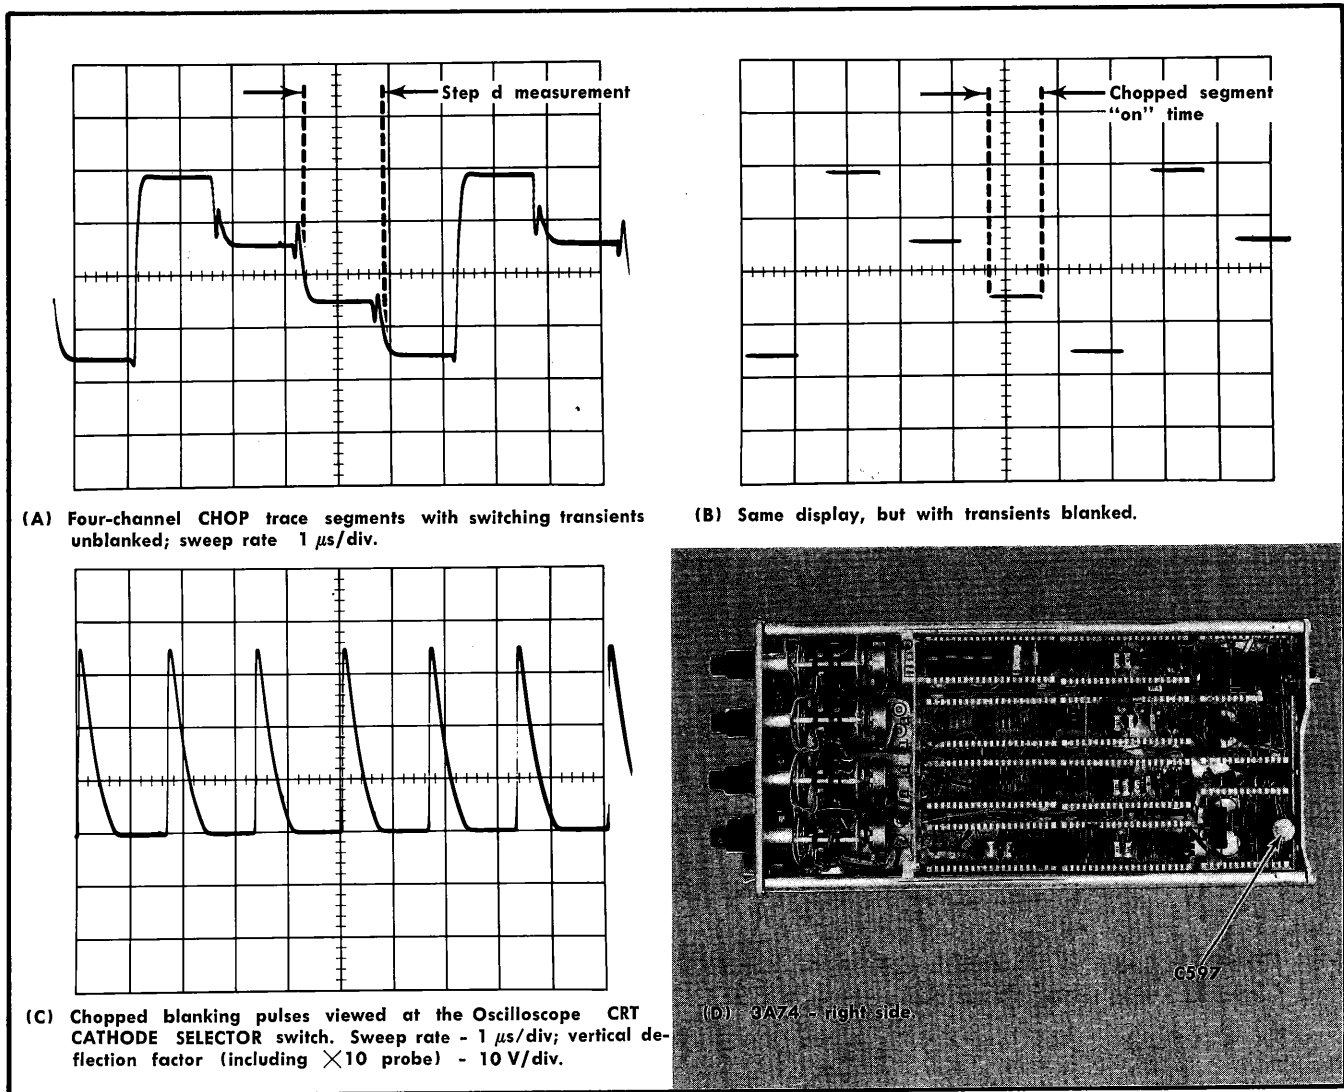

Fig. 5-12. Waveforms and adjustment locations for step 13.
d. Measure and record the number of divisions of separation between the switching transients as in Fig. 5-12 (A).
e. CHECK—Chopped Blanking. Switch the CRT CATHODE SELECTOR switch back to CHOPPED BLANKING (or DUAL TRACE) position and note that the transients are no longer visible as in Fig. 5-12 (B).
h. CHECK—Amplitude of Chopped Blanking pulse as displayed on the Test Oscilloscope. It should be 3.5 divisions (35 V) peak to peak, ± 0.2 divisions (2 V). See Fig. 5-12 (C).
i. ADJUST—Chopped Blanking pulse amplitude. Remove the 3A74 from the Oscilloscope and adjust C597 approximately $1/4$ turn. See Fig. 5-12 (D). Return the 3A74 to the Oscilloscope compartment and recheck the chopped blanking pulse amplitude. Repeat the C597 adjustment until 35 V peak-to-peak amplitude is obtained.
k. With the Oscilloscope INTENSITY set for normal viewing brightness, measure and record the number of divisions displayed by each of four adjacent segments as displayed on the 561- or 564-Series Oscilloscope. A measurement of one segment is shown in Fig. 5-12 (B).